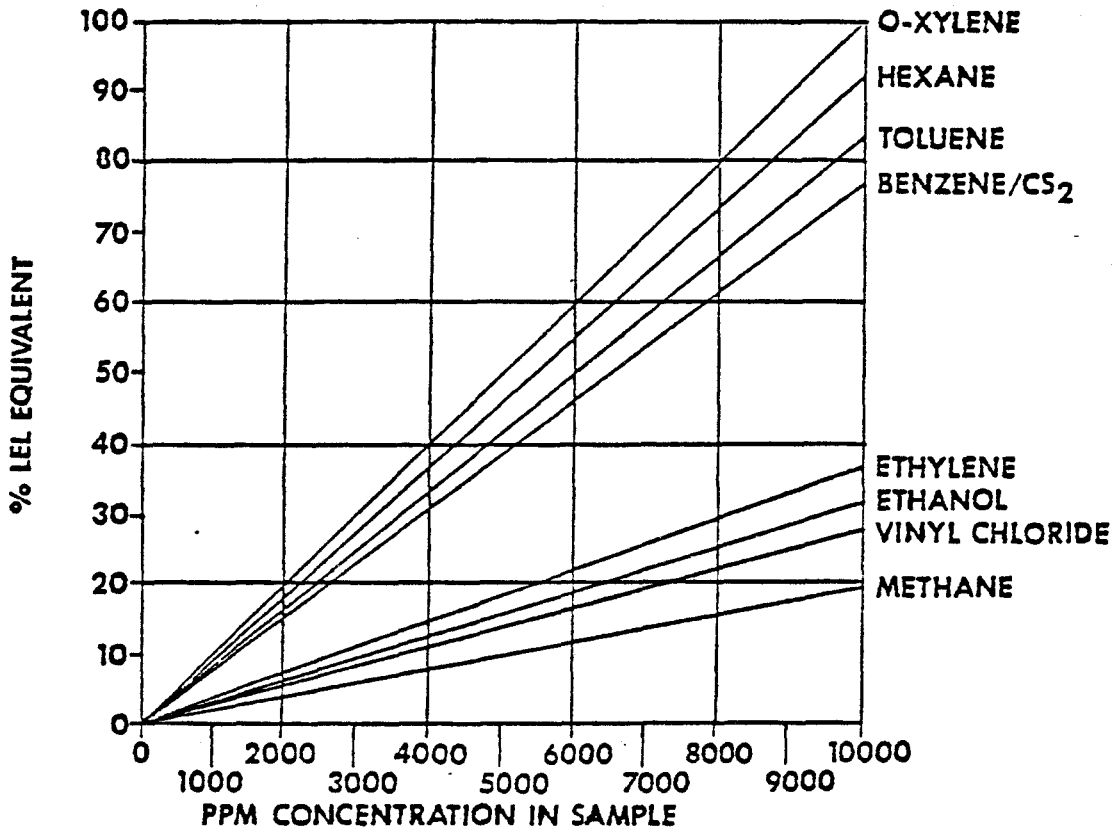

Figure 3-2. Conversion Curves Showing Relationship of PPM Concentrations of Various Gases to Percent L.E.L. Approximate Equivalents.
2. On 0-to-10,000 "PPM CONCENTRATION IN SAMPLE" horizontal scale at bottom of % L.E.L. Conversion Chart, Figure 3-2, locate position left-to-right representing ppm reading.